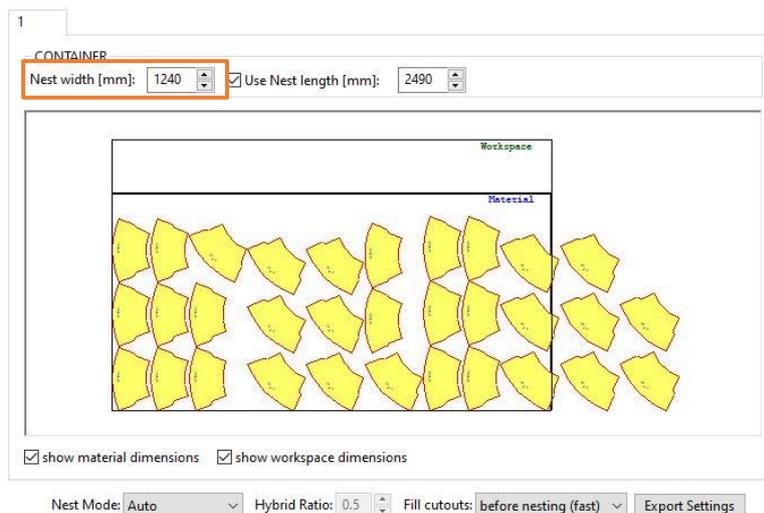

Figure 125
3. For nesting our Bulkhead cuts the default settings are fine. In some cases we just need to adapt the nest width (Figure 125).